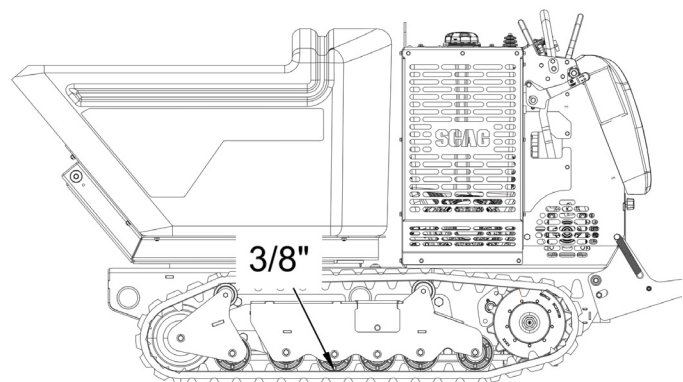

Figure 5-4. Track Tension Adjustment
12. Measure the sag in the middle of the track using a tape measure. See Figure 5-4.